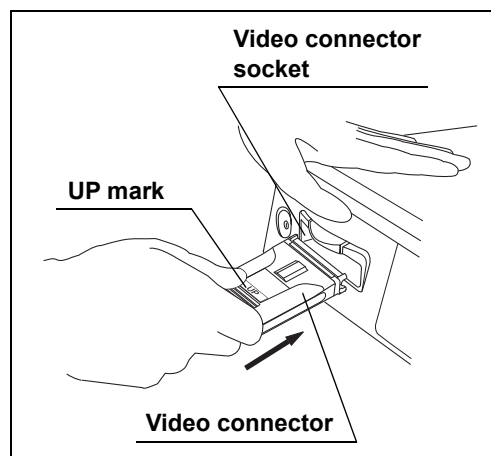

Figure 3.24
- 3 Make sure that the UP mark on the video connector is facing up. (See Figure 3.24)